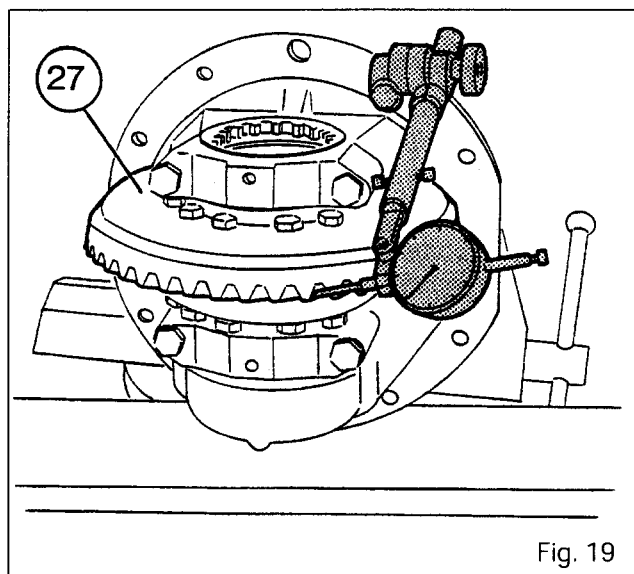

Fig. 19
75. Check the backlash on the crownwheel and the drive pinion with a dial gauge (Fig. 19). Take three readings at three equidistant points. Calculate the average of the three readings to obtain a backlash of 0.18 to 0.23.